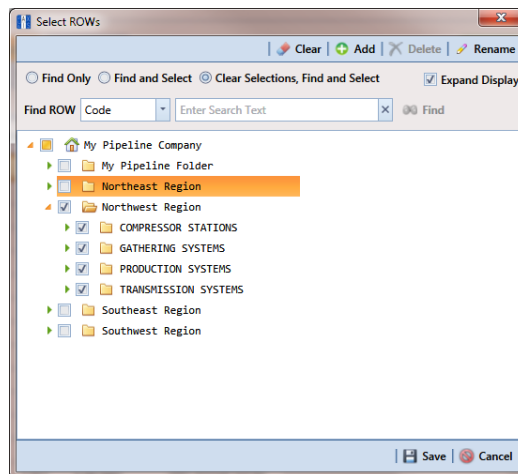

Figure 4-1. Select ROWs
The hierarchy is an organizational structure of one or more folders. Folders are organized in a tree structure based on the number of hierarchy levels set up in the system. The top level of the hierarchy is the root level that identifies your company's name. All hierarchy folders are added below the root level. The lowest level of the hierarchy includes a folder with pipelines added in the system (Figure 4-1, page 130).
- 1 Click **File** > **Select ROWs** to open the *Select ROWs* window (Figure 4-1).